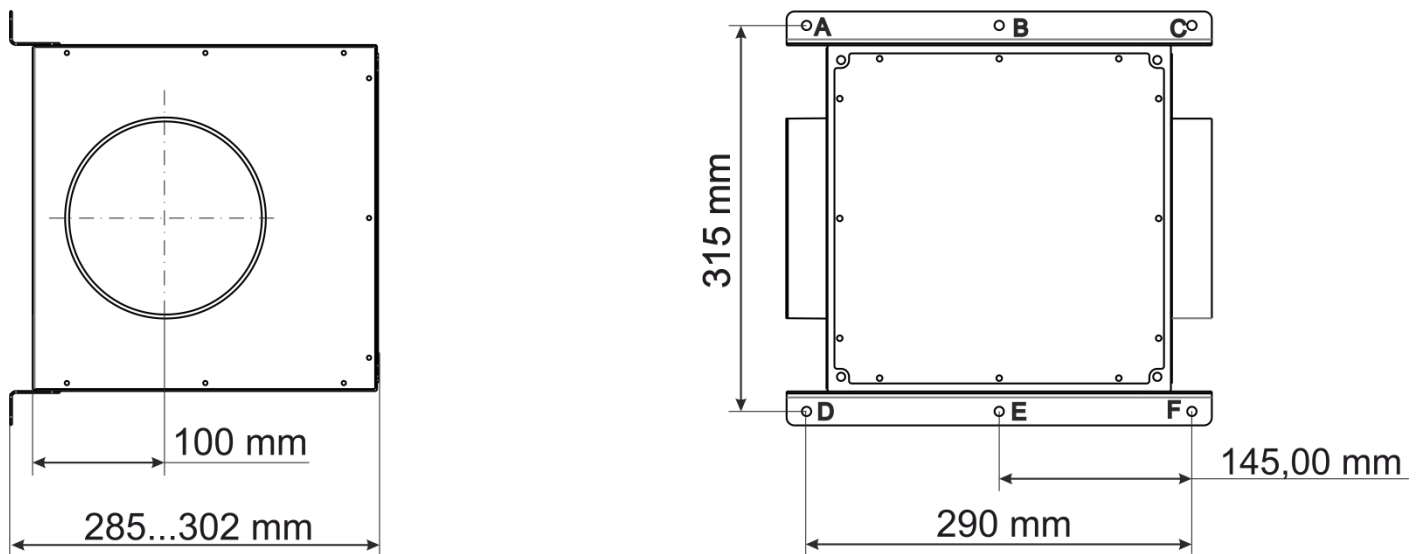

Fig. 2
6.4 Mark the mounting holes for the brackets at the installation site. To do this, make a paper template with the coordinates of 6 holes (points A, B, C, D, E, F). Apply the template to the desired location and align it on the level (Fig. 2)
6.5 Mark and drill in 6 holes A, B, C, D, E, F (Fig. 2).